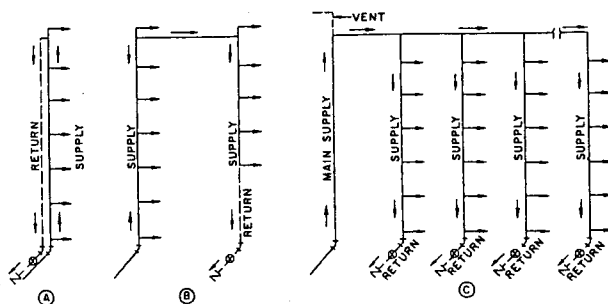

Fig. 3 Arrangements of Hot Water Circulation Lines
The circulation hot water supply may be an up-feed or down-feed piping system. Three common methods of arranging circulation lines are shown in Figure 3. Although the diagrams apply to multi-story buildings, arrangements (A) and (B) are also used in residential designs.